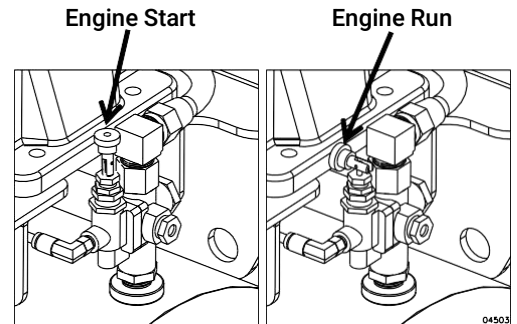

Figure 2
2. Turn the unloader to the engine START position. (Figure 2)